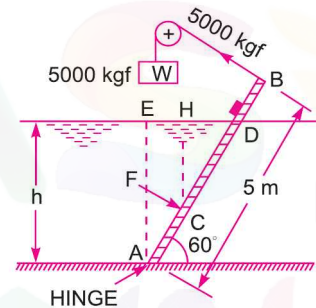

Fig. 3.22
**Problem 3.17** A rectangular gate 5 m × 2 m is hinged at its base and inclined at 60° to the horizontal as shown in Fig. 3.22. To keep the gate in a stable position, a counter weight of 5000 kgf is attached at the upper end of the gate as shown in figure. Find the depth of water at which the gate begins to fall. Neglect the weight of the gate and friction at the hinge and pulley.